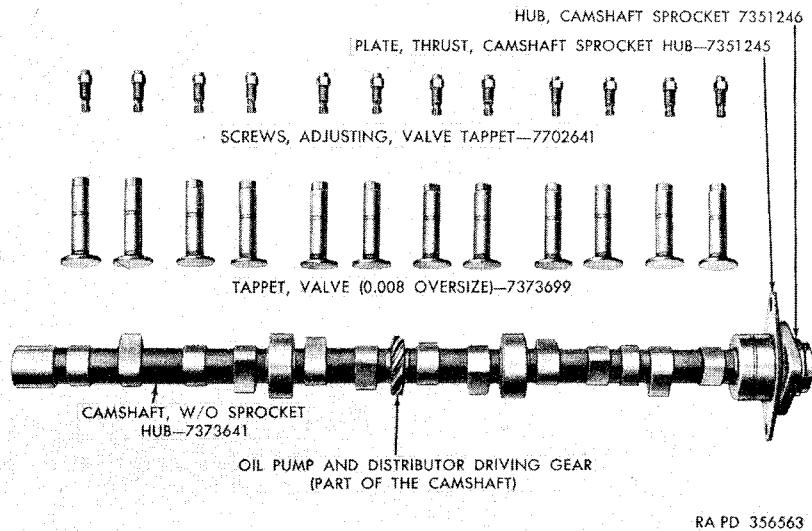

Figure 70. Camshaft and tappets.
i. Inspect Camshaft (fig. 70). Measure each camshaft bearing journal with a micrometer and replace the camshaft if the journals are worn in excess of repair and rebuild standards (par. 65). Examine oil pump and distributor driving gear, and if damaged or worn to any noticeable extent, replace the camshaft. Check bearing clearance and end play (par. 36m).